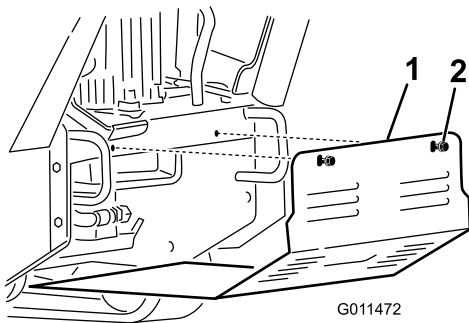

Figure 22
3. Loosen the 2 bolts securing the bottom shield sequentially until the shield is free (Figure 22).
5. To install the shield before operating the machine, slide the bottom shield into the machine so that it rests on all 4 tabs and secure it with the 2 bolts you loosened previously (Figure 22).